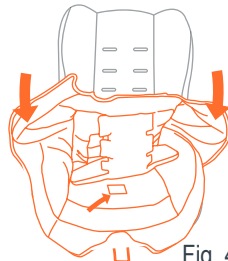

Fig. 41d
4. Pull harness webbing through the seat insert. Remove the seat insert and set aside (Fig. 41d).